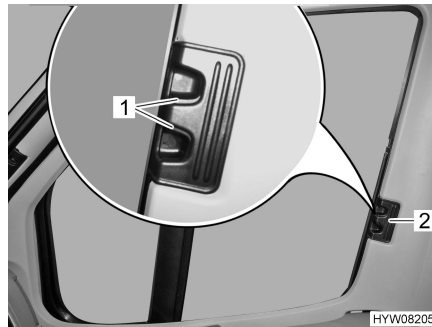

Fig. 9 Locking mechanism for Roman shades on driver's/front passenger's windows
- Use handle (Fig. 9,2) to push in the Roman shade as far as possible.
- Allow the release handles (Fig. 9,1) to engage.